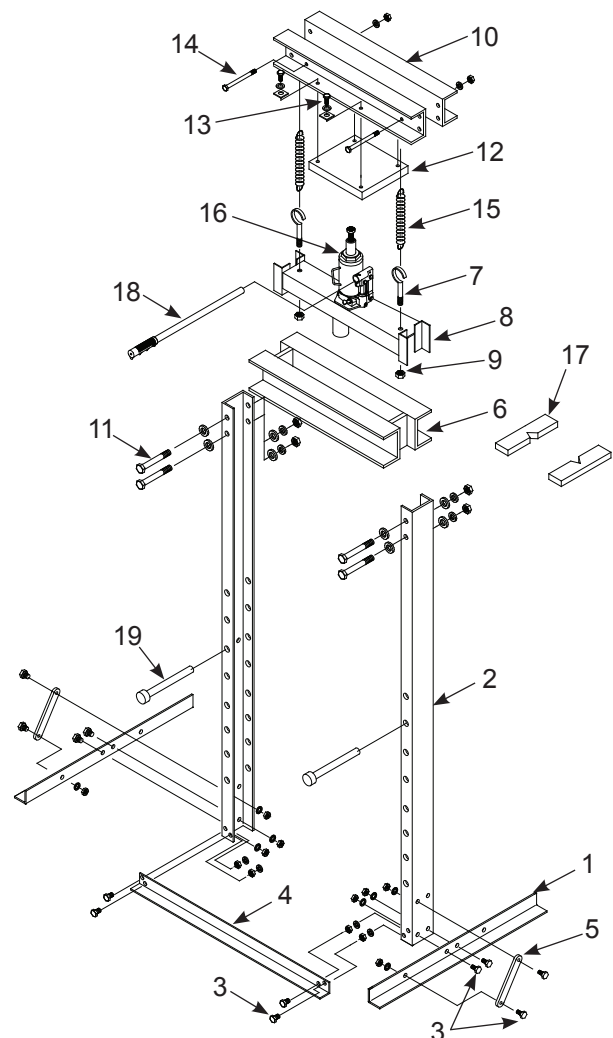

Figure 3 - Assembly Illustration for model Atd-7454
**Model Atd-7454:** (Refer to Figure 3)
1. Attach base legs (1) to upright channels (2) with bolts, lock washers and nuts (3). Hand tighten only.
2. Attach lower cross member (4) to upright channels (2) with bolts, lock washers and nuts (3).
3. Attach support links (5) to the base (1) and upright channels (2) with bolts, lock washers and nuts (3).
4. Carefully slide bed frame (6) down to lowest possible position between the upright channels (2).
5. Attach the screw hooks (7) to the jack bracket (8) with nuts (9). Leave nut untighten to provide easier spring attachment later.
6. Slide the jack bracket (8) down between upright channels (2) onto the bed frame (6).
7. Attach upper cross members (10) to upright channels (2) with bolts, flat washers, lock washers and nuts (11).
8. Attach head plate (12) to upper cross members (10) with bolts, lock washers and square washers (13).
9. Attach two bolts, lock washers and nuts (14) thru the upper cross member (10). Then attach one end of the springs (15) to the bolts (14) and the other end to the screw hooks (7) on the jack bracket.